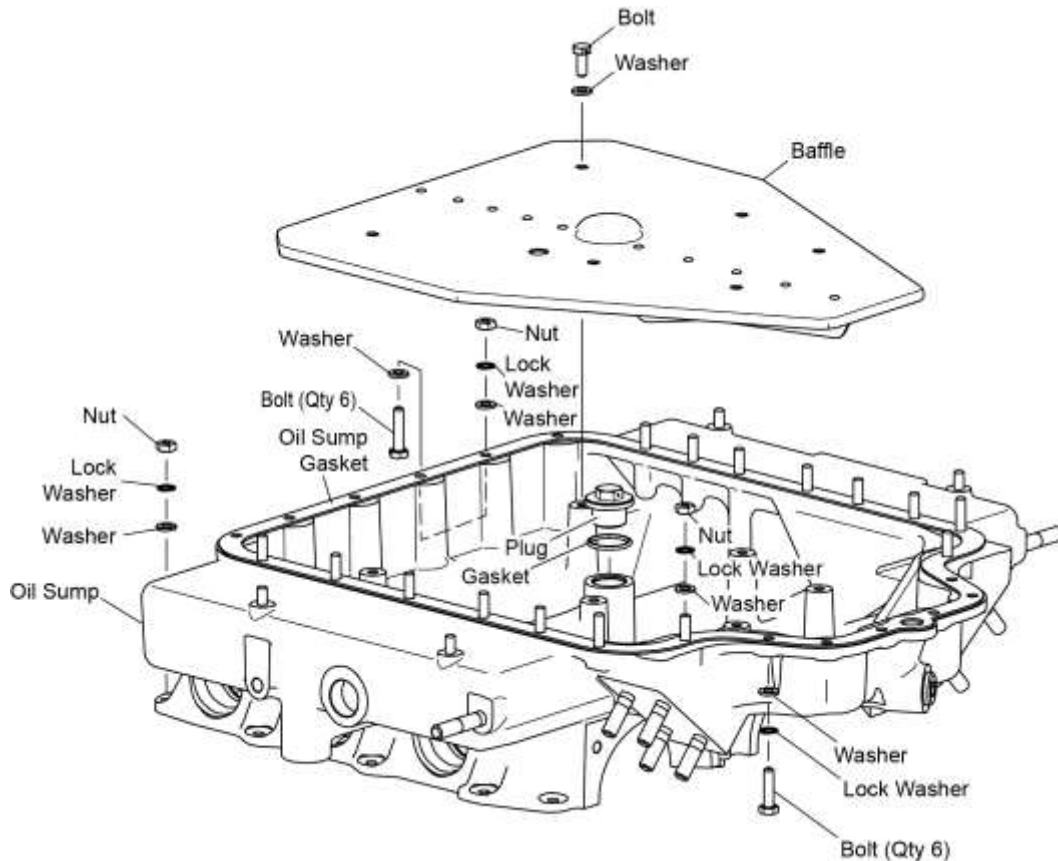

Figure 8
D. Remove the six bolts, six nuts, six lock washers, 12 washers, and six nuts (Figure 8) from the accessory housing end of the oil sump. Discard the lock washers.
- F. While one person holds the oil sump, remove the 15 nuts, 15 lock washers, and 15 washers from the left and right sides of the oil sump (Figure 8).
NOTICE: If studs are not already installed on the oil sump, install new studs in their corresponding location per Figure 8.
- F. Install a new oil sump gasket in the oil sump groove (Figure 8).
- H. Examine all of the oil sump fasteners identified in Figure 8, that were to be kept separate when the oil sump was removed. Make sure the bolts, studs, and nuts are not damaged are intact and have no stripped threads. Replace any damaged or stripped fasteners.
- I. While one person holds the oil sump, install the 15 nuts, 15 new lock washers, and 15 washers on the left and right sides of the oil sump (Figure 8).